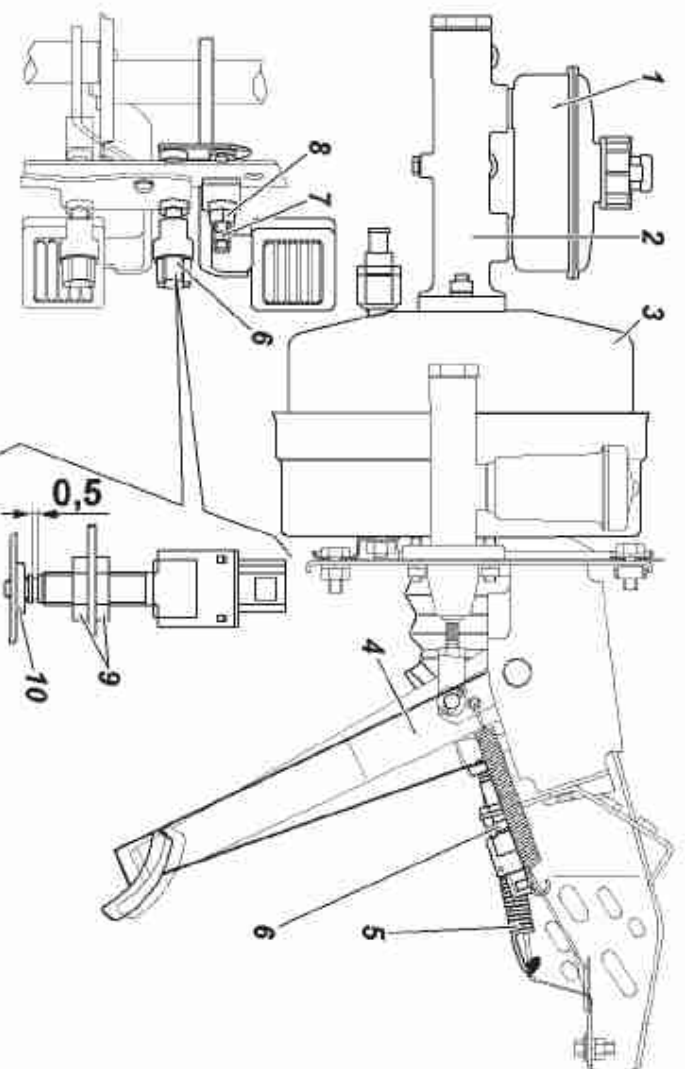

Fig. 9.38. Master cylinder drive:
**Brake pedal free travel.** As required by turning adjusting screw 7 (Fig. 9.38), choose the gap in the coupling: the yoke of the vacuum booster push rod — brake gear lever. Pedal free travel should be 5-8 mm. After adjusting, tighten the screw nut 8 with the torque of 14-18 N · m (1.4-1.8 kgf · m).